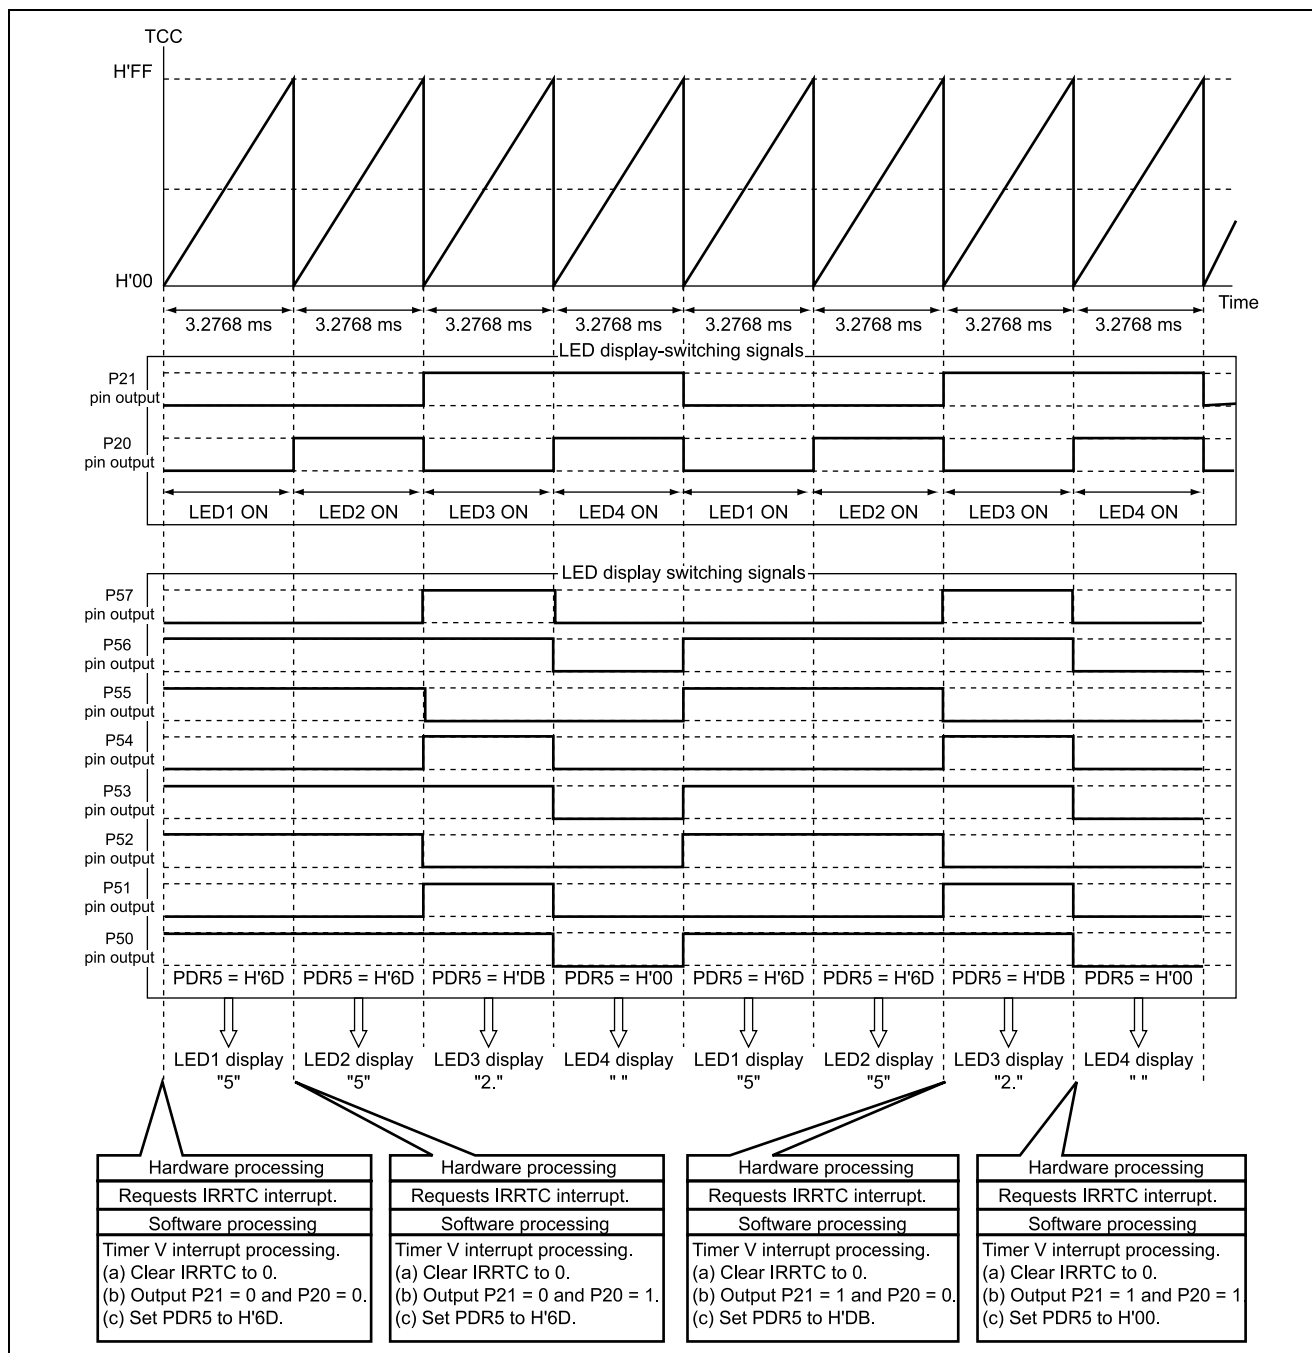

Figure 3.2 Principle of Operation of 7-Segment LED Display Control
2. The principle of operation of the seven-segment LED display control is as follows. Figure 3.2 describes the operation for the case in which "2.55" is displayed on LED4 through LED1. As shown in figure 3.2, by displaying the data in order on LED1 through LED4 at each timer V overflow period, data is displayed dynamically on the seven-segment LEDs.